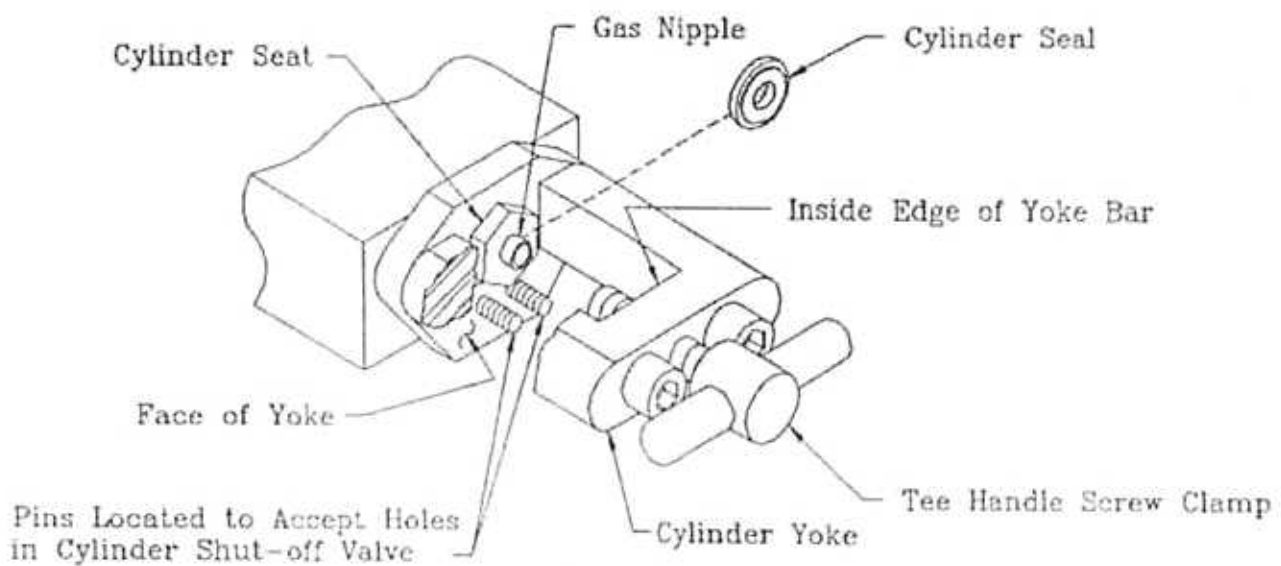

Figure 23
Pin index system is a method of pins accurately located on the face of the cylinder yoke and holes accurately located on the cylinder shut-off valve, such that only cylinders of a specific gas will fit the cylinder yoke for that specific gas. See Figures 23 and 24.
3. Place the cylinder seal on the cylinder seat such that gas nipple goes through the hole in the center of the cylinder seal. See Figure 23.
4. Locate the “E” cylinder directly underneath the cylinder with the cylinder shut-off valve located towards the cylinder yoke and such that the face of the cylinder valve will face the face of the yoke. See Figure 23 and 24.